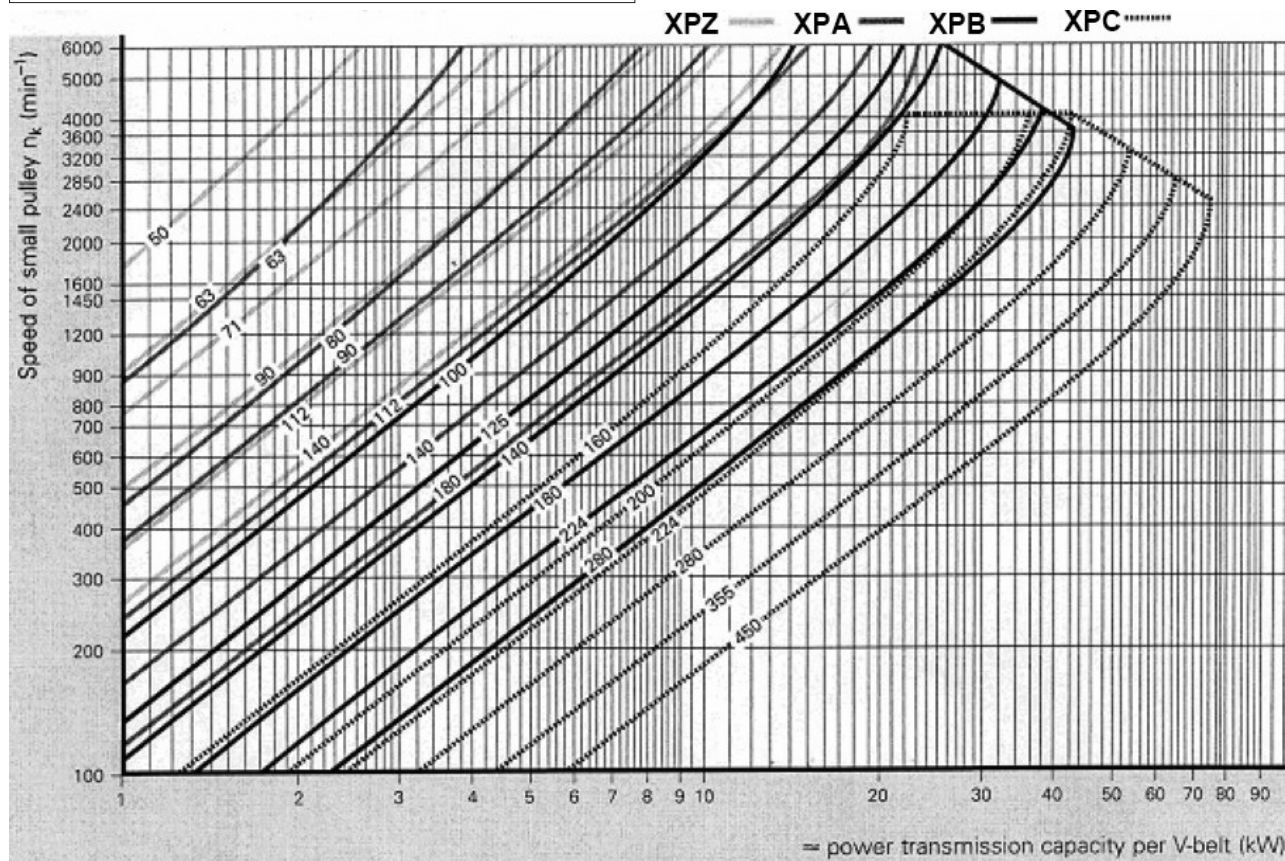
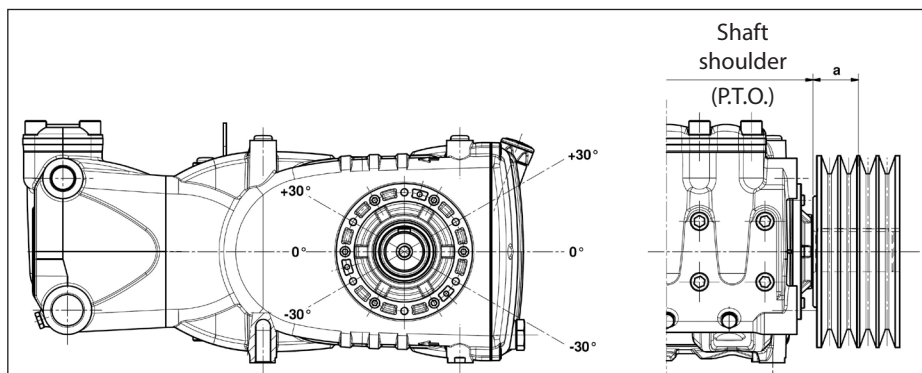

Fig. 7
Fig. 10
For this pump model, we recommend to use No. 4 XPB belts (16.5x13 serrated). Use an XPC profile only for long durations. Both the characteristics and transmissible power of each belt can be verified in the diagram in Fig. 7, in relation to the number of rpm normally declared by the manufacturer. Minimum duct pulley diameter (on pump shaft): ≥ 250 mm. The radial load on the shaft must not exceed 7500 N (value necessary for Layout definition). The transmission is considered adequate if the load is applied to a maximum distance $a=40$ mm from the shaft shoulder (P.T.O) as shown in Fig. 10.
- b) Use high performance belts – for example **XPB** instead of **SPB** – as a lower quantity of belts for the same transmitted power may be necessary and a consequent shorter resulting distance compared to the shaft shoulder (P.T.O.) “a” of Fig. 10.